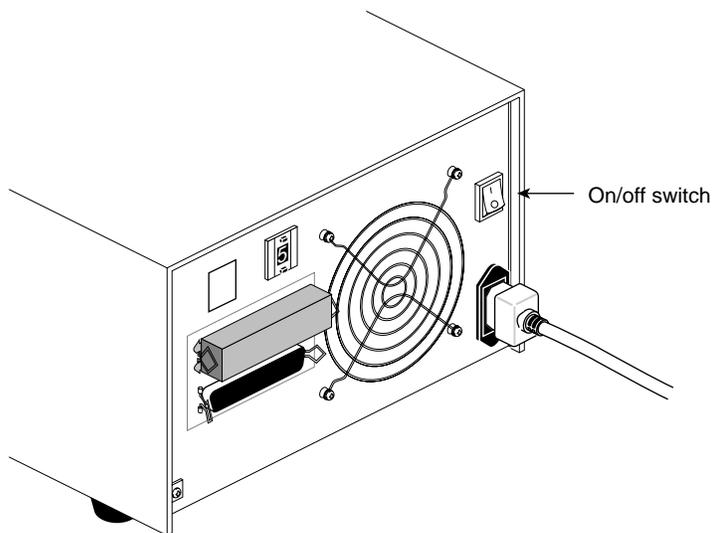

Figure 4-6 Desktop DLT2000XT Power Switch
3. At the rear of the unit, turn on the DLT drive by pressing the side of the rocker switch with the “|” (see Figure 4-6.)